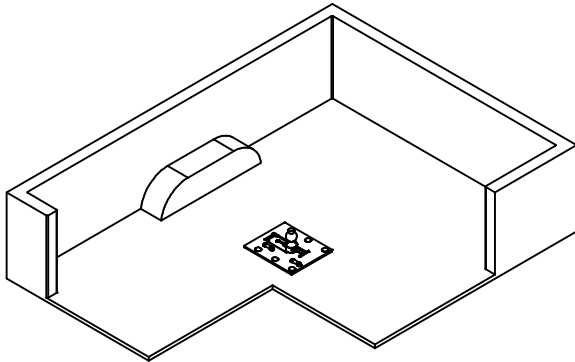

FIGURE 1
1. The hitch must be centered between the sides of the truck bed about 2"- 6" in front of the rear axle for proper weight distribution (**Figure 1**).